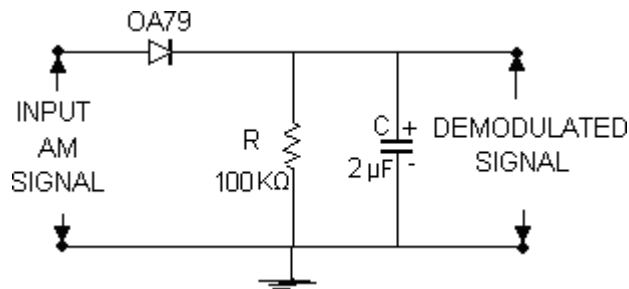

Fig.1.2. AM demodulator
9. Connect the circuit diagram as shown in Fig1.2